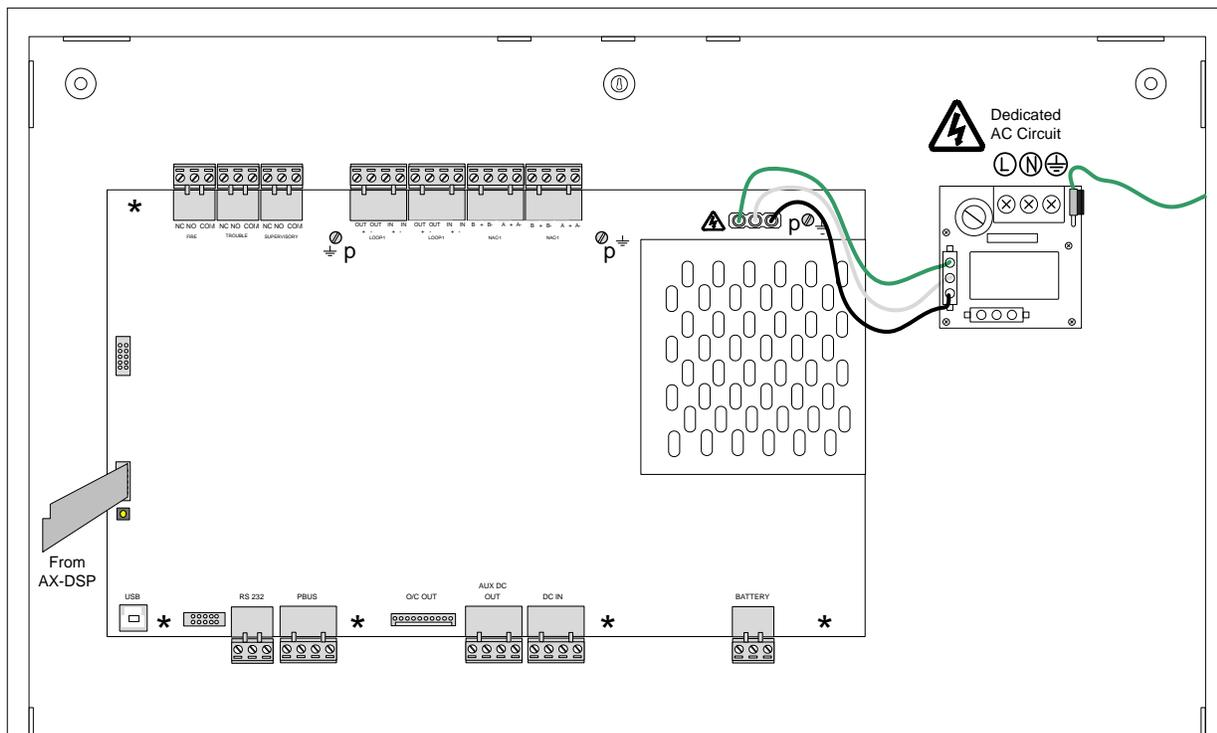

Figure 9 - NX-FACP Base Card
- \* The base card is hung on five top-hat (screw-less [\*]) standoffs and secured with three (3) screws [p] (see figure 9). It is critical that these screws are tightly secured as they are required for proper earth ground connection.
To install the NX-FACP base card, slide the NX-FACP base card over the five top-hat (screw-less [\*]) standoffs and secure the card to the back box with the three (3) provided screws [p] (see figure 9).